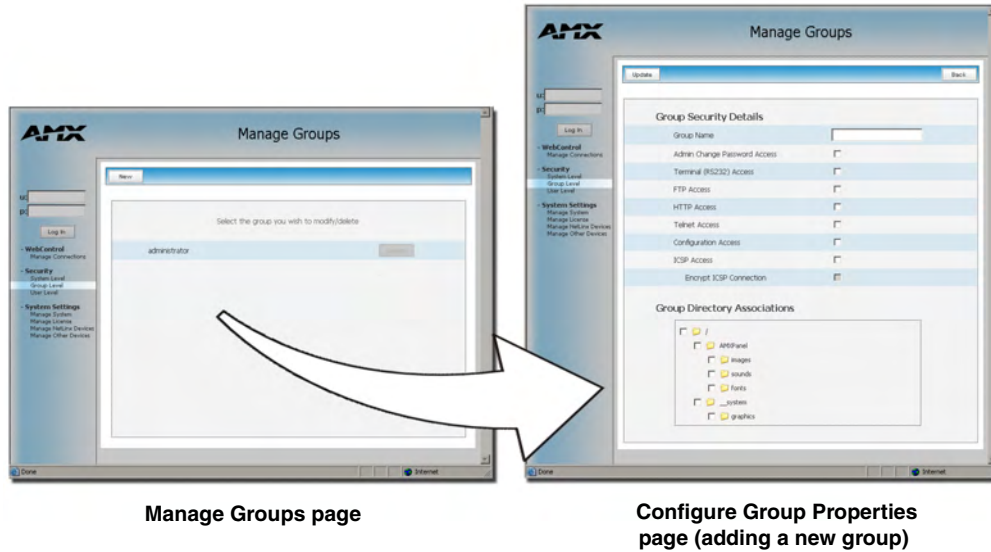

FIG. 52 Group Level Security - Manage Groups Security page
To access this page, click the **Group Level** link (from within the Security section of the Navigation frame). This page (FIG. 52) allows an authorized user to both select and modify an existing group, delete an existing group, or add a new group. *Unless you are logged in with administrator privileges, you will not be allowed to modify the default administrator profile.*
2. Click the **New** button to be transferred to the Configure Group Properties page (FIG. 52).
2. Press the **Select** button (next to the selected Group name) to open the Configure Group Properties page (FIG. 52) for the particular group.